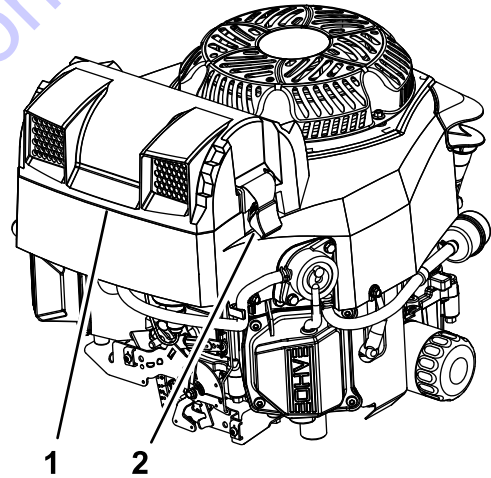

Figure 21
2. Remove the cover to access the air-cleaner elements (Figure 21).
3. Install the cover, and secure it with the latches (Figure 21).